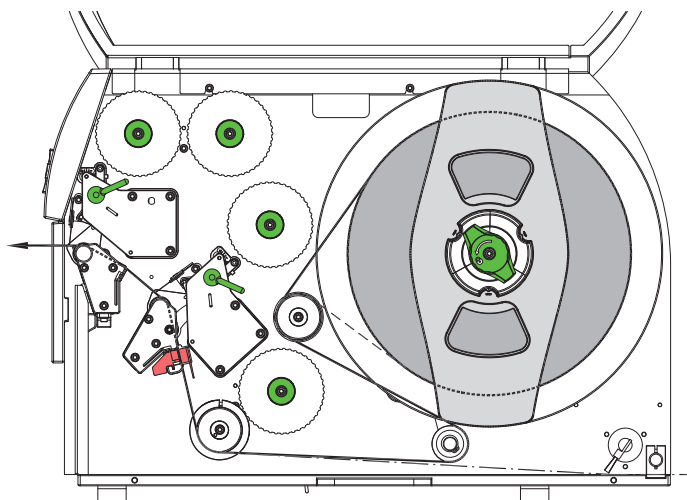

Fig. 10 Label feed path
1. Unroll a label strip of approx. 1 m. Guide the label strip to the print mechanics as shown in figure 10. The broken line shows the path for inside wound labels.